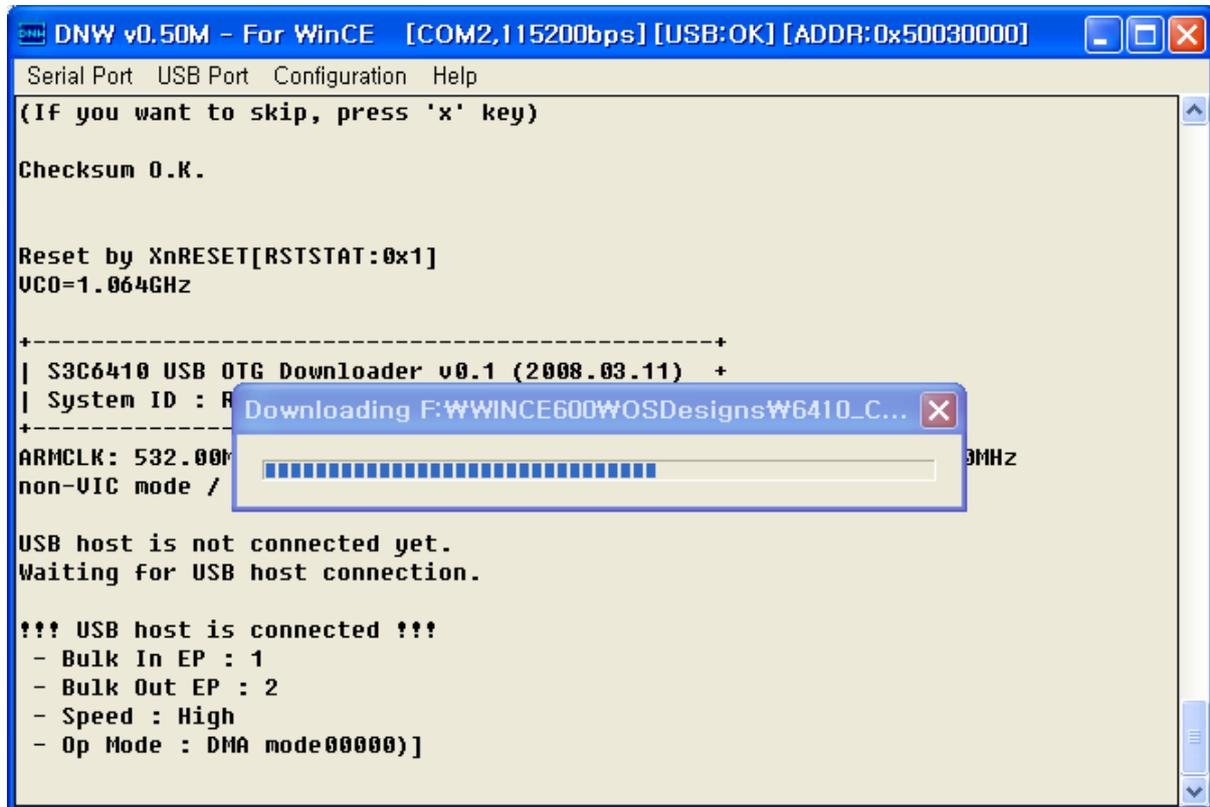

Figure 5-7 Downloading Status of NK.nb0
- Once download begins, a download status bar appears on your screen as shown in figure 5-7. After NK.nb0 download is over, Windows Embedded CE 6.0 boots on the target Board